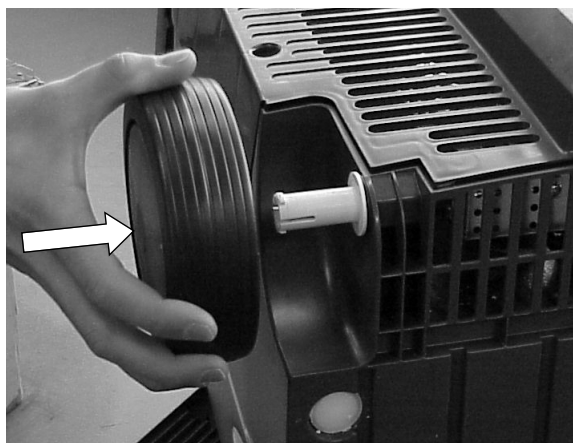

Figure 6.
6. Mounting the wheels (Fig. 6.)